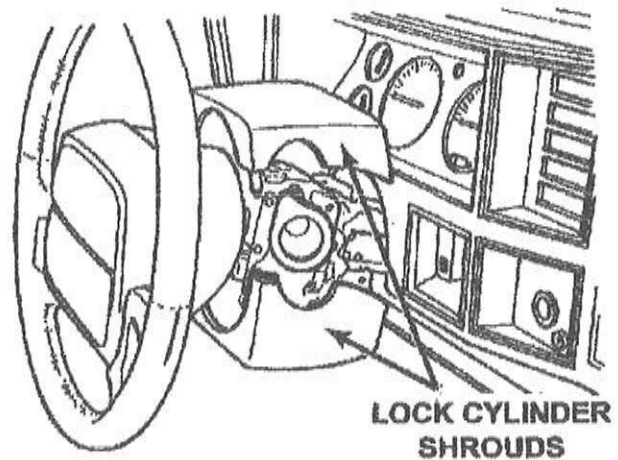

Figure 3
11. Remove the steering column ignition key lock cylinder housing upper and lower shrouds (Figure 3).
33. Install the steering column lock cylinder upper and lower shrouds (Figure 3).